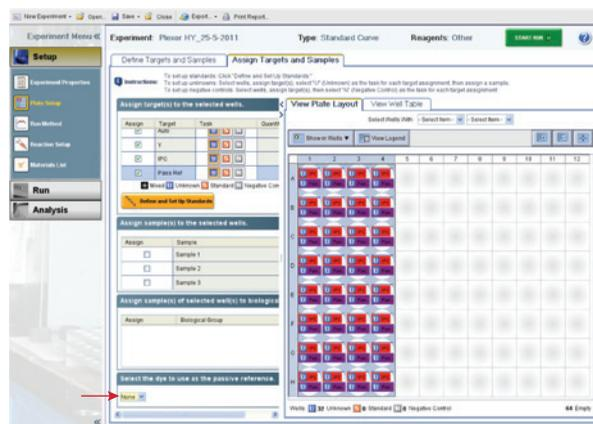

Figure 14. Assign Targets and Samples tab.
- Select “Assign Targets and Samples” tab (Figure 14), and highlight the wells in use on the plate map. Assign all four targets to the selected wells. Do not highlight unused wells. Select “None” for passive reference.